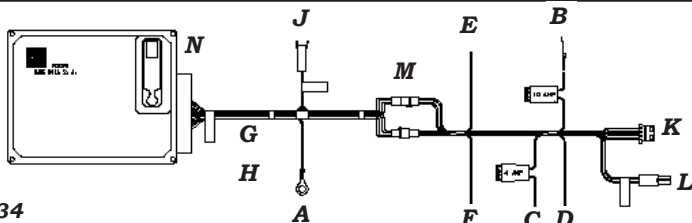

Figure 34
- B. Straighten the **CRUISE HARNESS** and find the **2- & 4-pin** mating connectors. Separate the **2- & 4-pin** connectors. A small screwdriver may be needed (See **K** in *Figure 34*).
Utilize **Figure 34** to make the necessary wiring harness connections to your vehicle.
The **Gray Vehicle Speed Signal (VSS)** wire is how the **GlobalCruise** “knows” how fast the vehicle is moving. The **Pulses Per Mile/Kilometer (PPM/PPK)** are a characteristic of the vehicle and must be set accordingly (See **Page 7**). If **VSS** cannot be located on the vehicle then an auxiliary road speed sensor must be used [**Signal Generator or Magnet & Coil Pick-Up Kit (Kit# 250-4165)**]. If you use an auxiliary speed sensor, plug it into auxiliary speed sensor connector (**J** in **Figure 34**) and trim the **Gray VSS** wire as not to pick-up any stray signals.
This connector is used in conjunction with the **4-Pin Switch Connector (H** in **Figure 34)**. The **2-Pin Switch Connector (J** in **Figure 34)** is utilized by control switches which require an additional power and ground source such as those containing an **LED** indicator light or **rostra Radio Frequency (RF)** models.